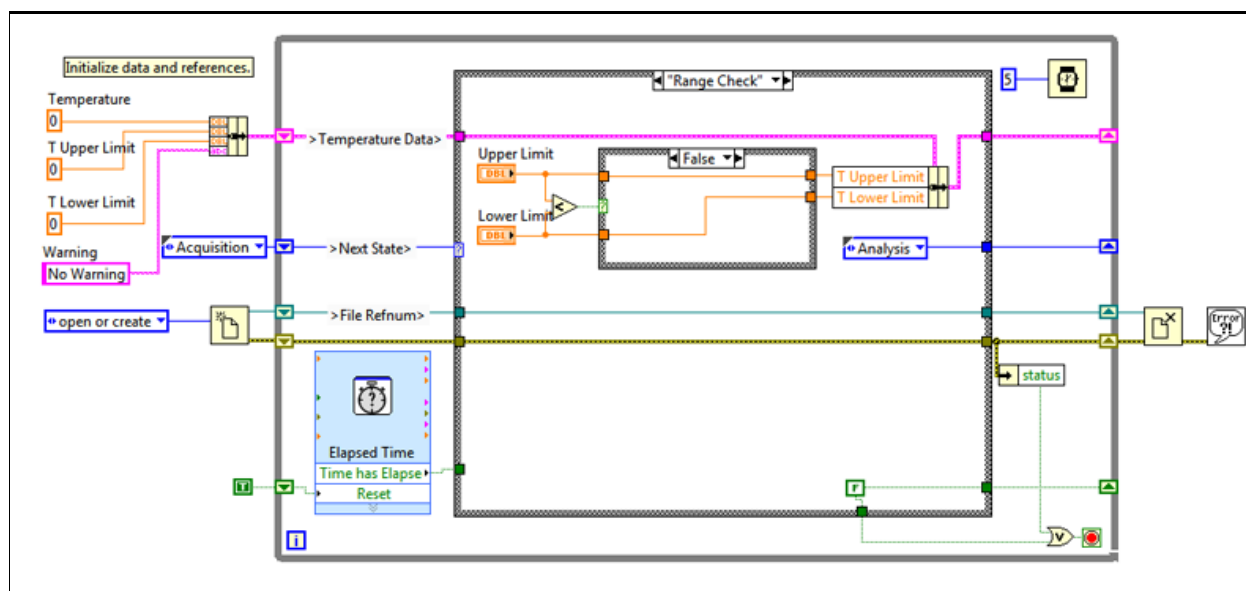

Figure 3. Figure 3. Completed Range Check State-False
6. If the Upper Limit is equal to or greater than the Lower Limit, pass the values of the controls to the temperature cluster, as shown in Figure 3.